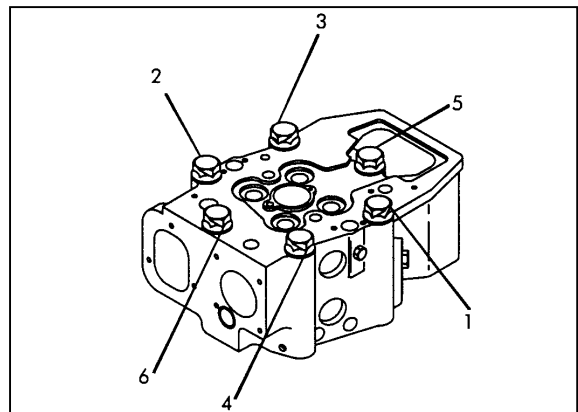

Fig.25 Tighten the bolts in the sequence above
5. Tighten all bolts diagonally (Fig.25) to a torque between 90 and 100Nm.